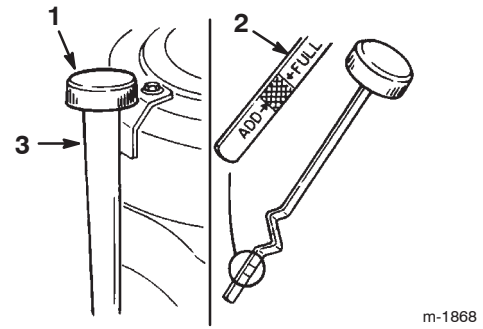

Figure 18
7. Clean around the oil dipstick (Fig. 18) so that dirt cannot fall into the filler hole and damage the engine.
8. Unscrew the oil dipstick and wipe the metal end clean (Fig. 18).
9. Screw the oil dipstick fully onto the filler tube (Fig. 18).
- Slowly pour about 80% of the specified amount of oil into the filler tube (Fig. 18). Check the oil level; refer to Checking the Oil Level on page 23.